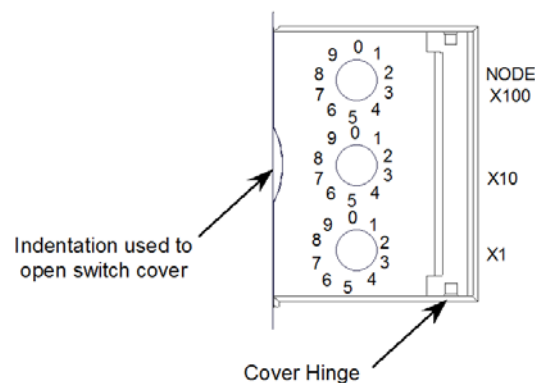

Figure 37: ENIU Rotary Switches (Old Hardware)
- 1) Open the clear protective hinged cover by pulling forward at the indentation in the left side of the ENIU (see Figure 37 above).